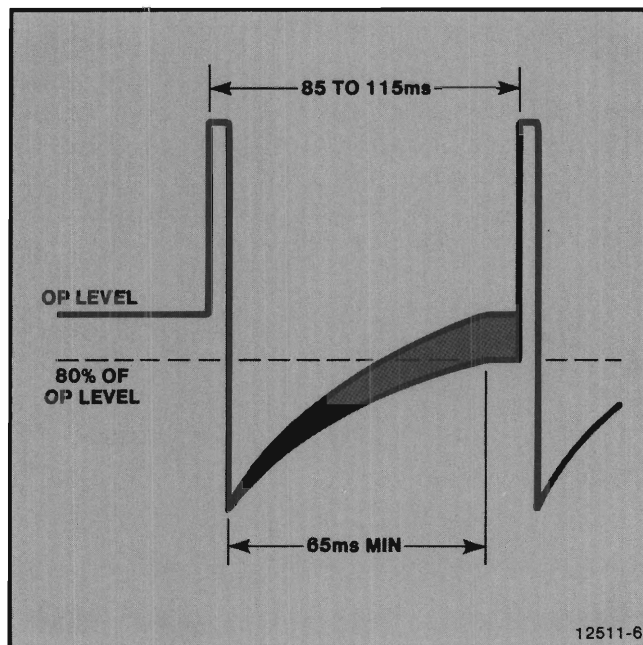

Figure 5-13. First Ramp of Target Erase Waveform.
13. Refer to Figure 5-13, which shows the first ramp of the target erase waveform in more detail.